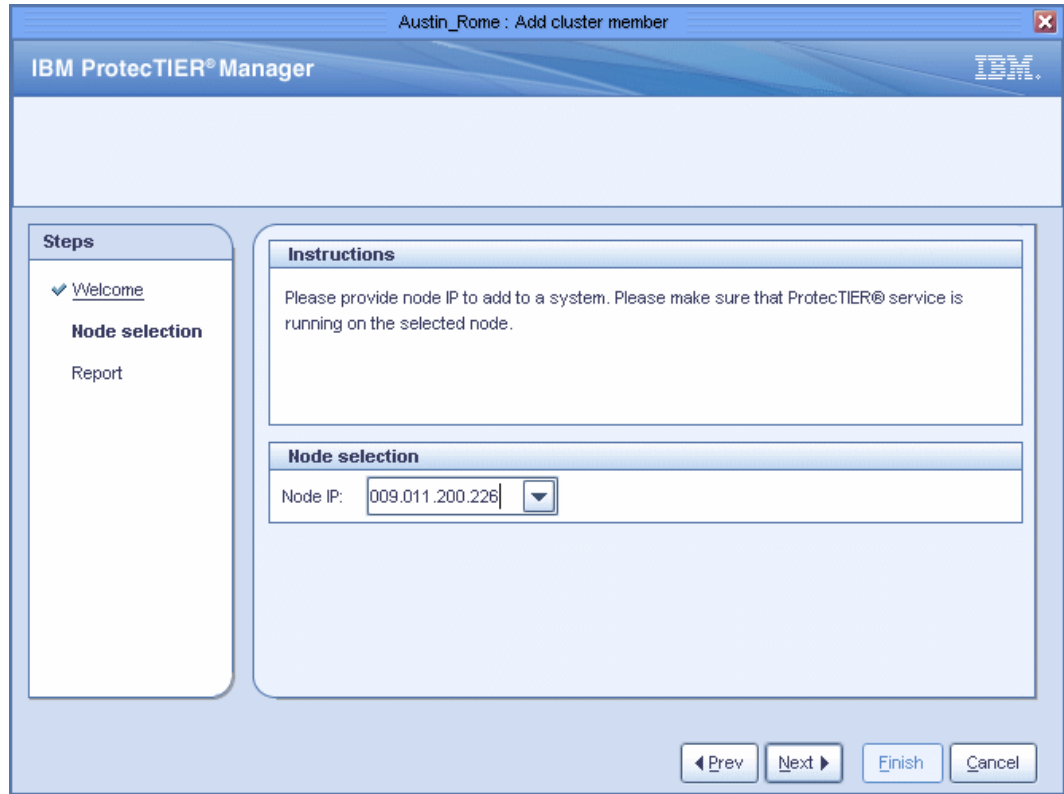

Figure 10-78 Add cluster member: Node selection window
3. In the Node IP field, enter the IP address of the node that you want to associate with the cluster or select the IP address from the drop-down list (Figure 10-78).